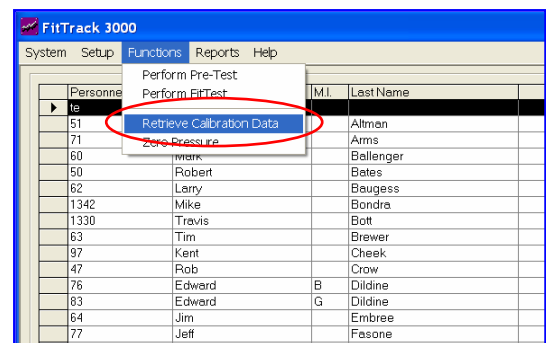

Fig. 3 – Retrieving Calibration
10. Click on the “Function” menu and choose “Retrieve Calibration Data” (Fig. 3)